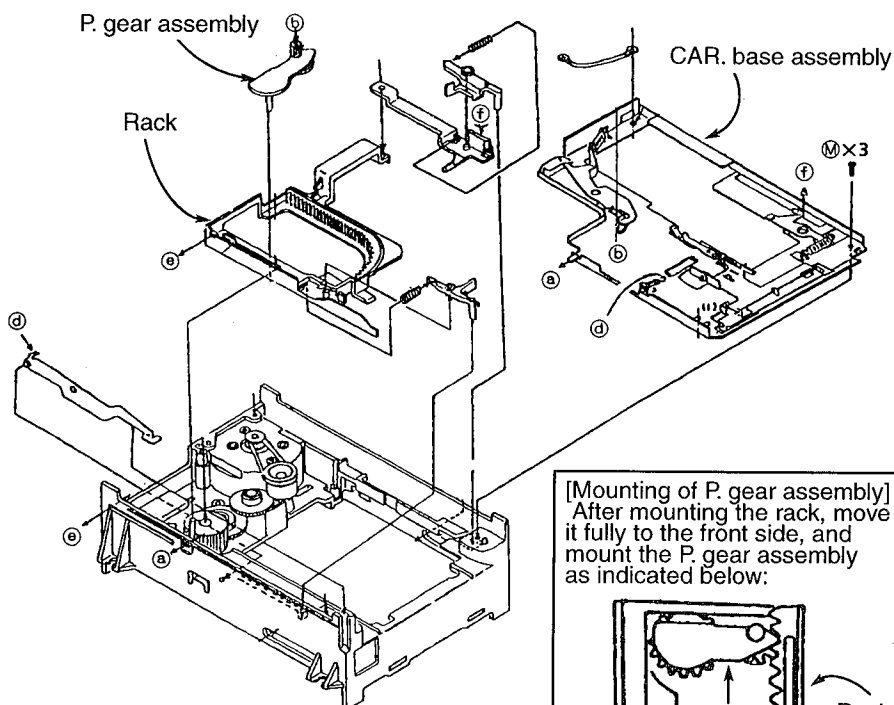

Fig. 27
3. Remove the three screws (M) retaining the CAR. base assembly. (See Fig. 27)
4. After removing the spring (d), dismount the CAR. base assembly and rack. (See Fig. 27)
(Caution) The CAR. base assembly and rack should be assembled according to the methods in Figs. 27 and 28.